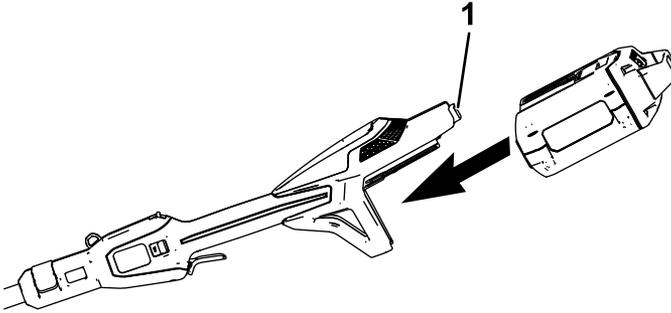

Figure 8
2. Align the cavity in the battery pack with the tongue on the power head (Figure 8).
3. Push the battery pack into the power head until the battery locks into the latch (Figure 8).